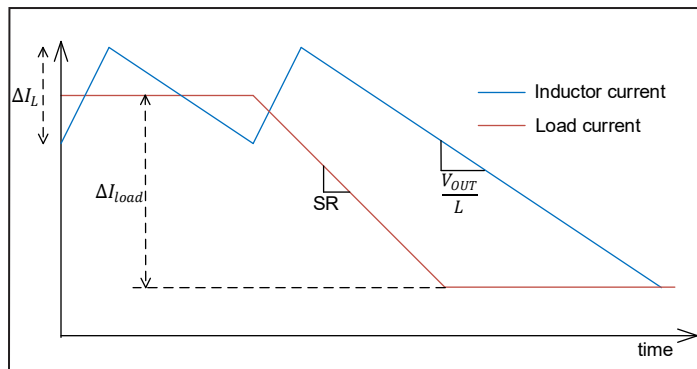

Figure 33 Inductor Current during Unloading
The transient overshoot happens when the load current is rapidly reduced (load throw off event). In this situation, the load slew rate (SR) magnitude is larger than the inductor current falling rate, as shown in Figure 33. In a COT controlled converter, the maximum overshoot in the output voltage can happen, when the load throw-off occurs immediately after start of a TON pulse. Accordingly, the required capacitance is as follows: